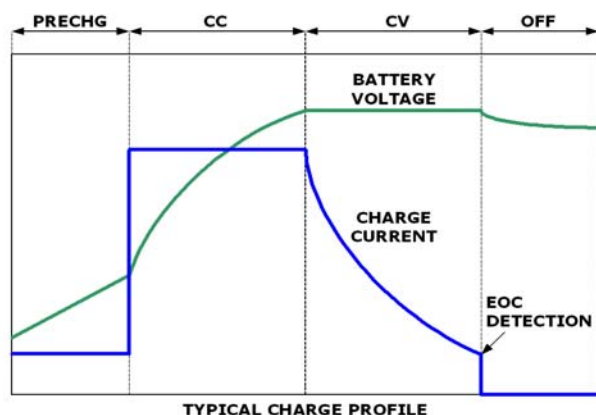

FIGURE 1. TYPICAL CHARGE PROFILE
The ISL9220B is an integrated charger optimized for charging 1-cell Li-ion or Li-polymer batteries. It charges a battery with the constant current (CC) and constant voltage (CV) profile. The typical charge profile is shown in Figure 1.